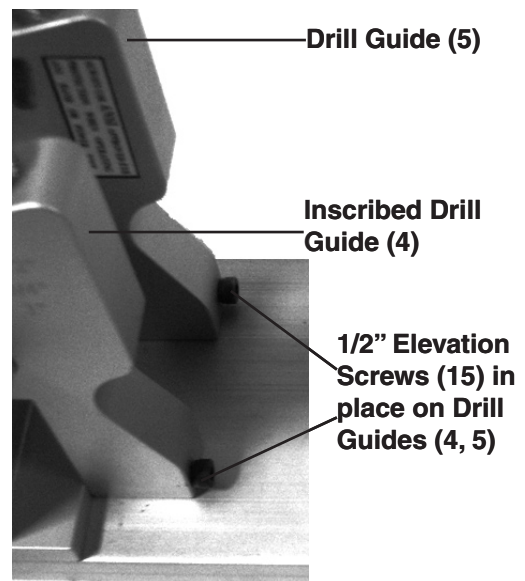

Figure 5
NOTE: To drill 1/2" material only: In order to drill 1/2" material correctly, the two 1/2" Elevation Screws (15) need to be screwed into the lower face of the Drill Guides (4,5). After the 1/2" Elevation Screws are in place, the workpiece must be rested **on top** of the 1/2" Elevation Screws (15) before being secured by Toggle Clamp (13). If the 1/2" Elevation Screws (15) are not in place then any hole drilled in 1/2" material will not be correct. **(See Figure 5)**